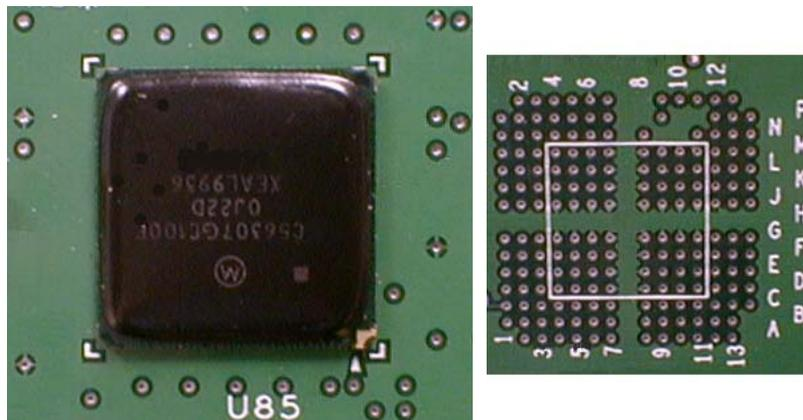

Figure 2 Via Test Points
- A non-masked via (see Figure 2)